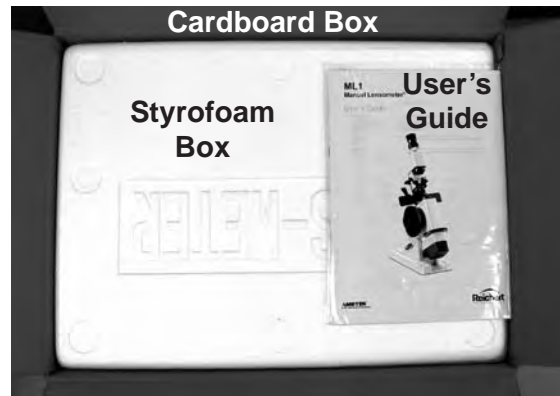

Figure SU-01 User's Guide
1. Open the top of the shipping box and remove the User's Guide from the top. Refer to Figure SU-01.